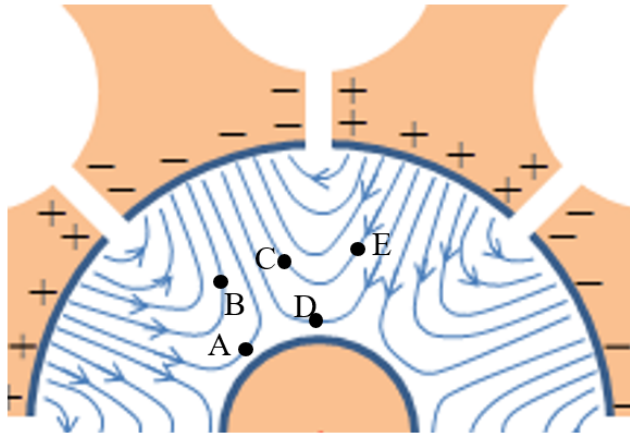

Figure 2
Experiments show that when the spring is hung at rest and then released, it gradually contracts from the top, while the lower part remains stationary (see Figure 2). As time advances, the contracting part moves as a solid chunk and accumulates additional turns of the spring, while the stationary part becomes shorter. Every point on the spring begins to move only when the moving part reaches it. The bottom end
Figure 2: Left: a sequence of pictures taken during the free fall of slinky. Right: the moving part I and the stationary part II during the free fall of the spring.
- B.2** In this task ℓ is used to denote the coordinate of the boundary between parts I (in figure 2, the moving part) and II (the stationary part). At a certain moment, while a stationary part still exists its mass is $m(\ell) = \frac{\ell}{L_0} M$, and the moving part moves with uniform instantaneous velocity $v_I(\ell)$. Show that at this moment (while there exists a stationary part) the velocity of the moving part is $v_I(\ell) = \sqrt{A\ell + B}$. Express the constants A and B in terms of L_0 , g and α . 2.5pt
- A.4** Figure 2 depicts the alternating electric field lines between the anode and the cathode at a given moment in time (the static field is not plotted). Indicate in the Answer Sheet which of the electrons positioned at A,B,C,D and E will drift towards the anode, which will drift towards the cathode and which will drift at a direction perpendicular to the radius at that moment. 1.2pt